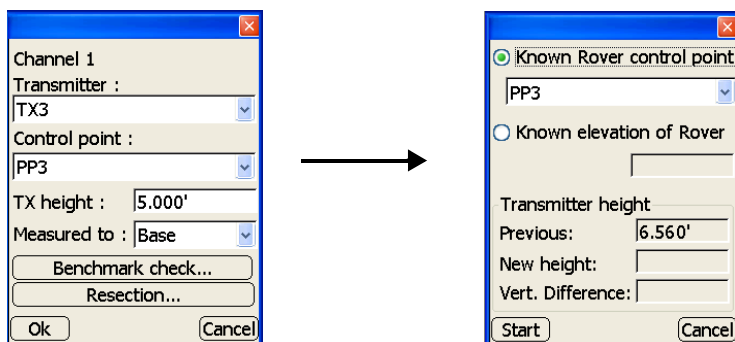

Figure 4-25. Begin Height Check
5. Press **Benchmark check** (Figure 4-25).
6. On the *transmitter height* dialog box, select one of the following and press **Start** to measure (Figure 4-25). During the measurement, the *Measuring* dialog box displays.